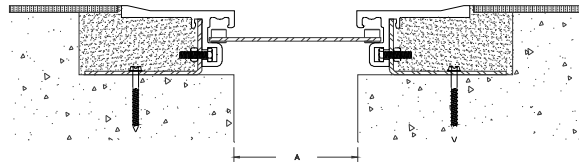

Figure 7
**STEP 11.** If applicable, install finished floor material in accordance with the material manufacturer's installation instructions (see Figure 7).